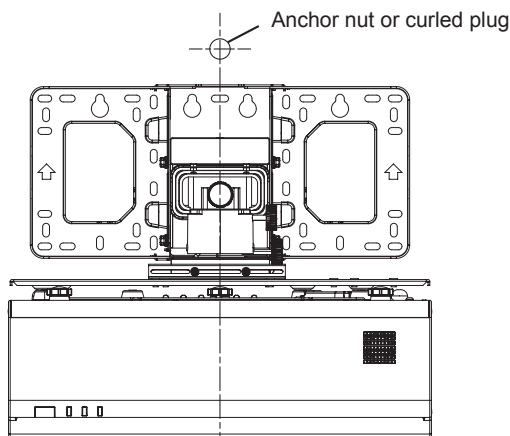

Fig.1
- 1) **Mount the anchor nut or curled plug (M10) firmly in the concrete wall. (Fig.1)**